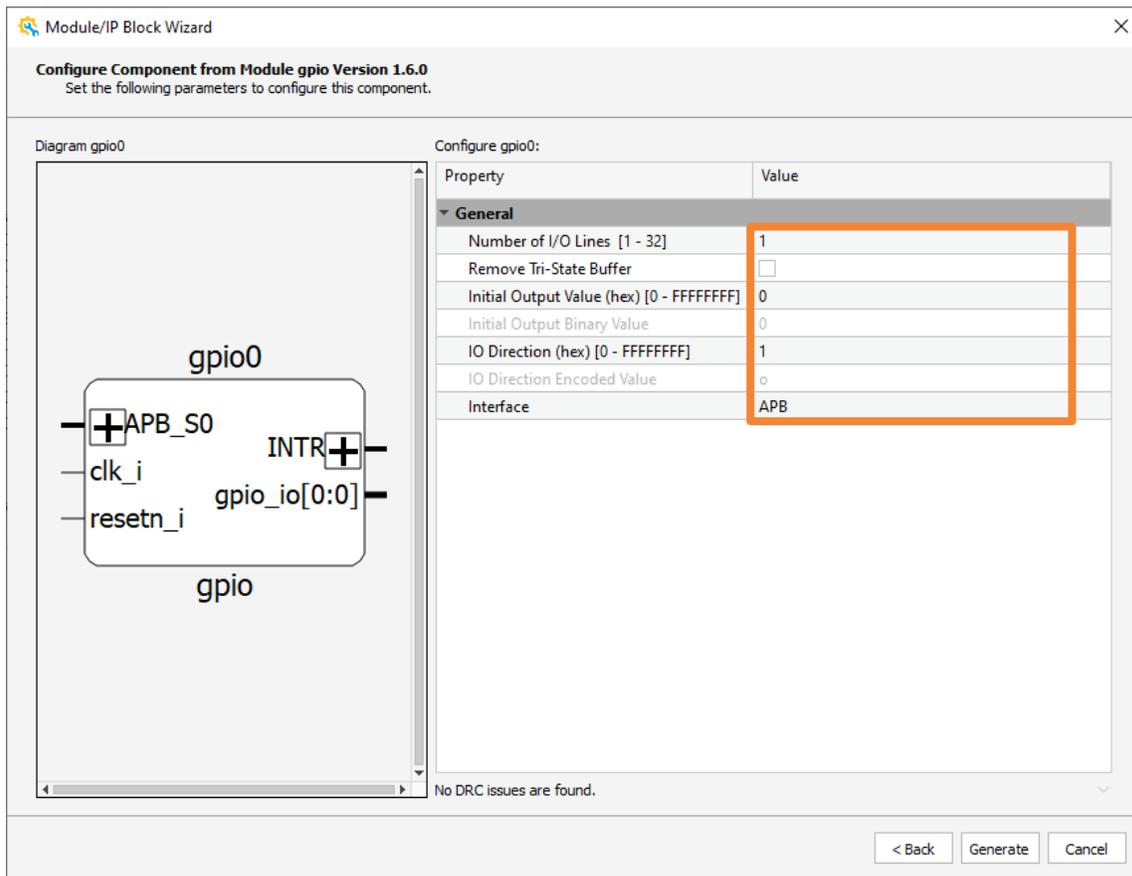

Figure 2.41. Module/IP Block Wizard – Configure Component from IP Gpio Version 1.6.0
3. Enter a component name in the **Component name** area, such as gpio0. Click **Next**. Module/IP Block Wizard shows the **Configure Component from IP gpio Version 1.6.0** page (Figure 2.41).